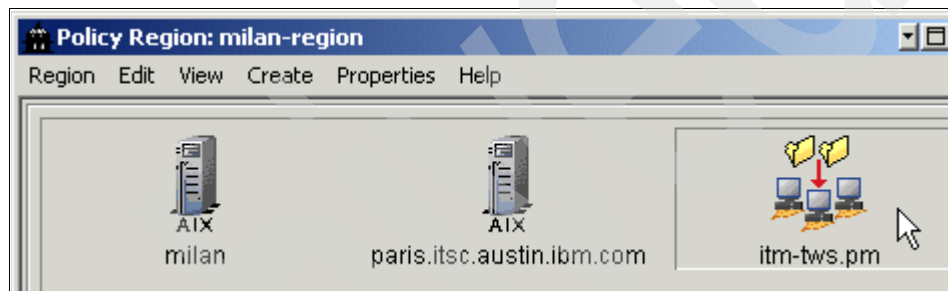

Figure 9-19 Opening the new profile manager
14. Double-click the new profile manager as shown in Figure 9-19.